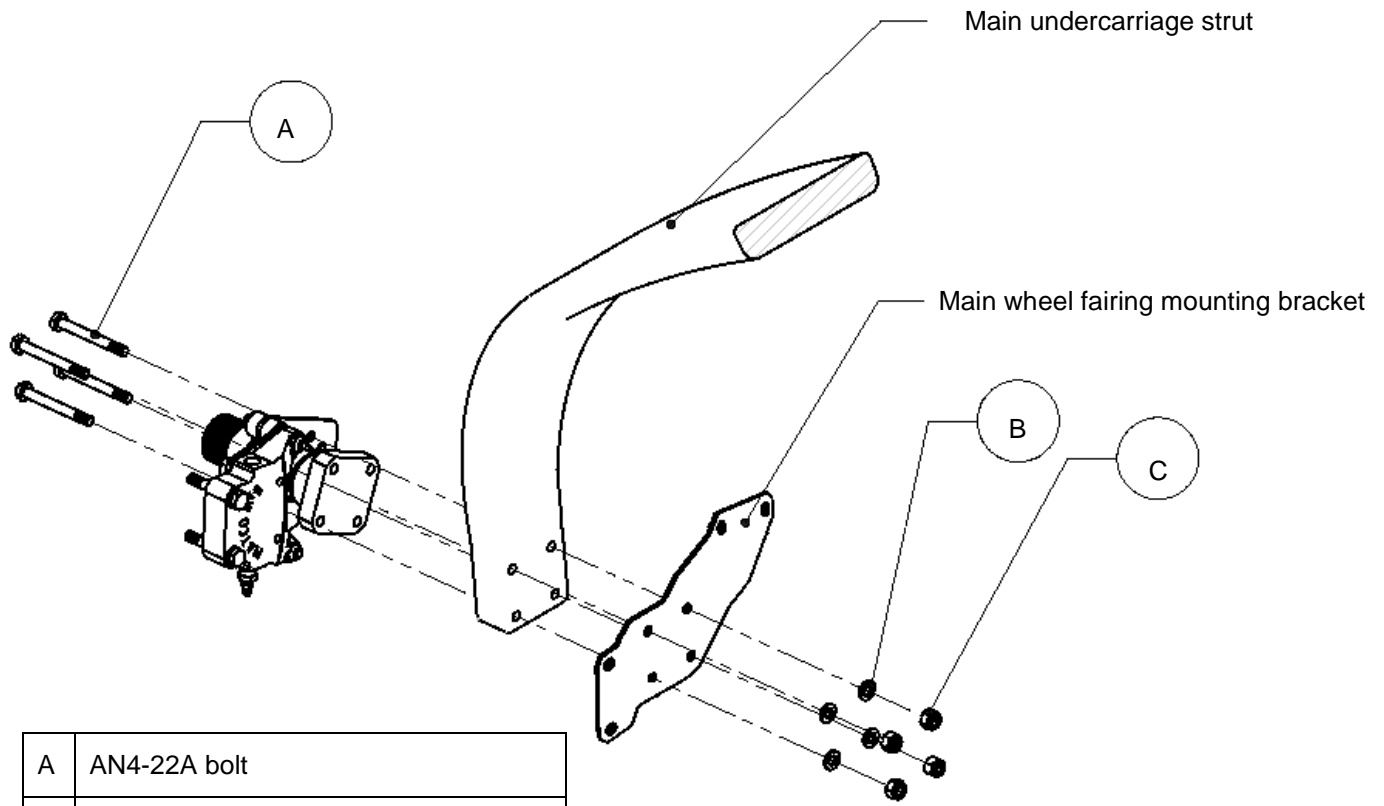

Figure 35: Main wheel axle installation.
- Tighten the lock-nuts and bolts mounting the axle, brake assembly and fairing mounting plate to the undercarriage strut sufficiently. Observe the correct placement of washers (refer to Figure 35) and note that the bolts are installed with their heads facing the wheel.